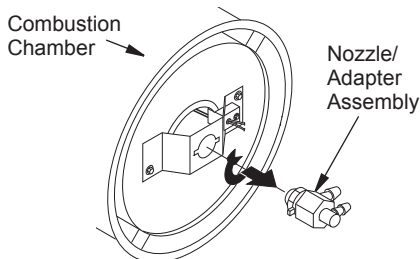

Figure 15 - Removing Nozzle/Adapter Assembly
4. Turn nozzle assembly 1/4 turn to left and pull toward motor to remove (see Figure 15).
10. Attach nozzle assembly to burner strap (see Figure 15).